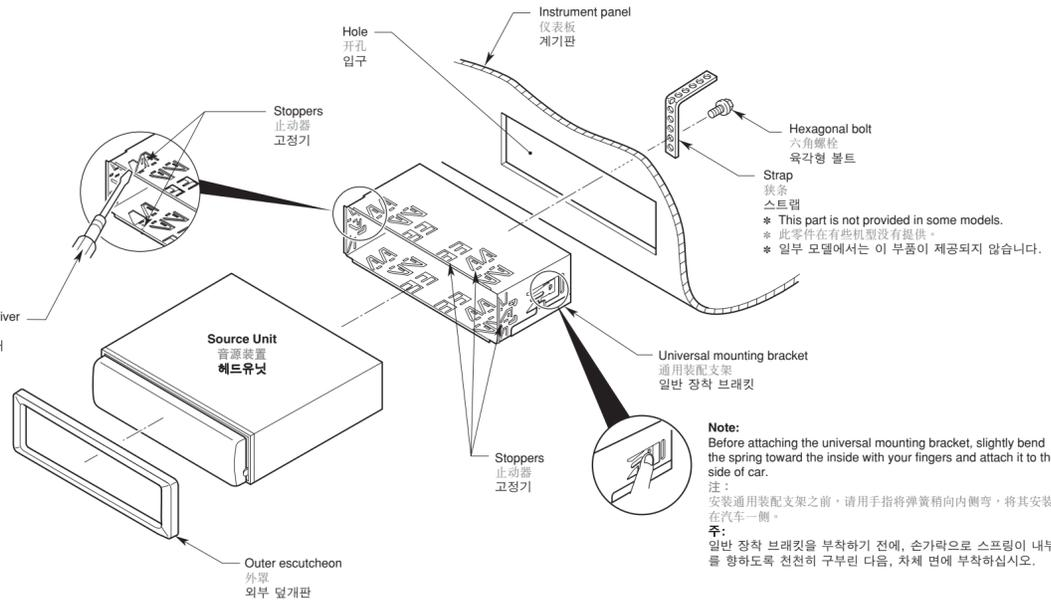

Figure 4 / 图 4 / 그림 4
- Place the universal mounting bracket into the instrument panel, use a screwdriver to bend each stopper of the universal mounting bracket inward, then secure the stopper as shown in Figure 4.
- 将通用装配支架放入仪表板内，用螺丝刀将通用装配支架上的各个止动器向里弯，然后如图 4 所示固定止动器。